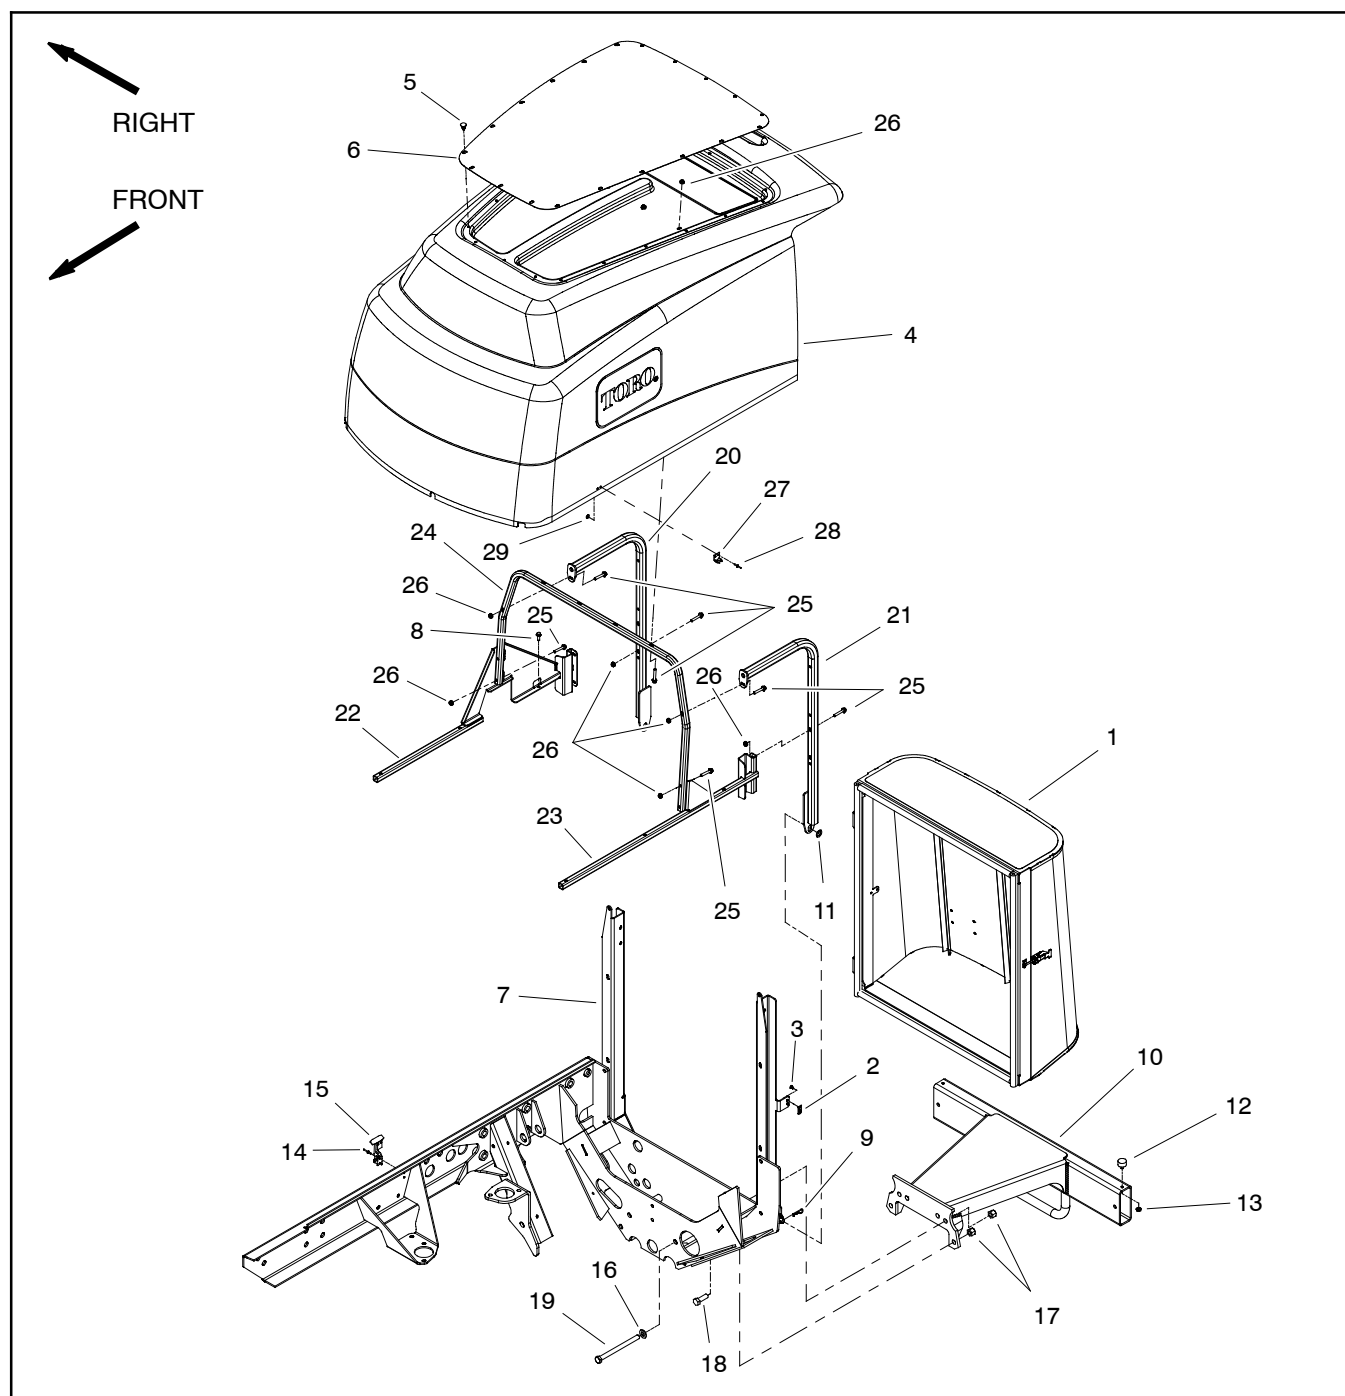

Figure 22
**Removal (Fig. 22)**
5. If necessary, disassemble hood using Figure 22 as a guide.
6. Check bulb seals on screen (item 1) and replace seals if damaged.
**Installation (Fig. 22)**
1. If components were removed from hood, assemble hood using Figure 22 as a guide.